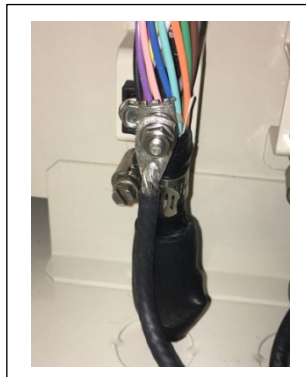

Figure 9
3. Mark the cable sheathing between the two bolts on the attachment piece and remove the sheathing from the mark to the end of the cable (Figure 9).